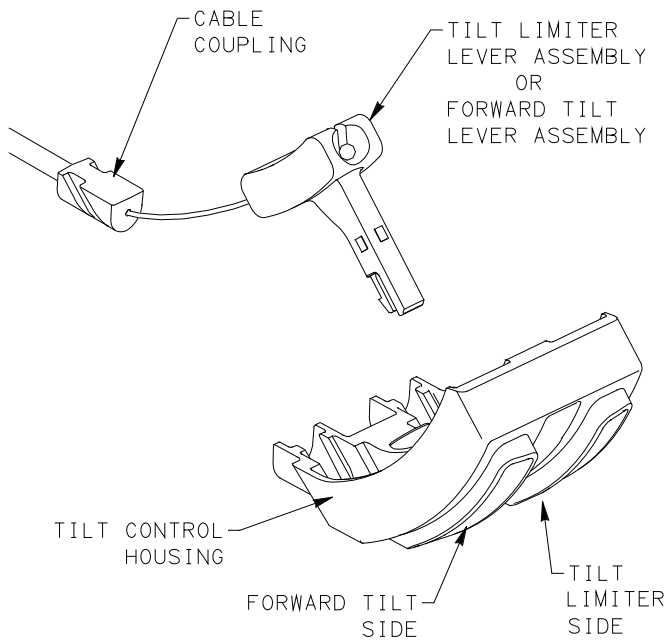

FIGURE 14
10. REMOVE TILT LIMITER LEVER ASSEMBLY FROM TILT CONTROL HOUSING. IF CHAIR IS MANUFACTURED WITH FORWARD TILT OPTION, REMOVE FORWARD TILT LEVER ASSEMBLY FROM TILT CONTROL HOUSING. SEE FIGURE 14.